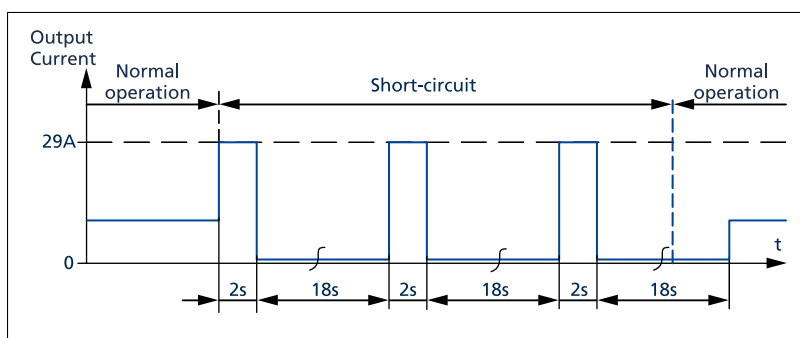

Fig. 6-3: Short-circuit on output, Hiccup^{PLUS} mode, typ.
2) At heavy overloads (when output voltage falls below 13V), the power supply delivers continuous output current for 2s. After this, the output is switched off for approx. 18s before a new start attempt is automatically performed. This cycle is repeated as long as the overload exists. If the overload has been cleared, the device will operate normally. See Fig. 6-3.